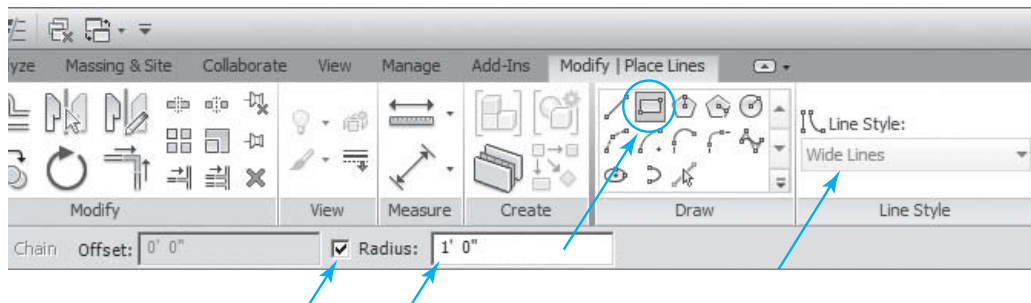

Figure 2-35
6. Adjust the rectangle either by selecting an edge and dragging it or by entering a new dimension in **Listening Dimensions** (see Figures 2-35 and 2-36).